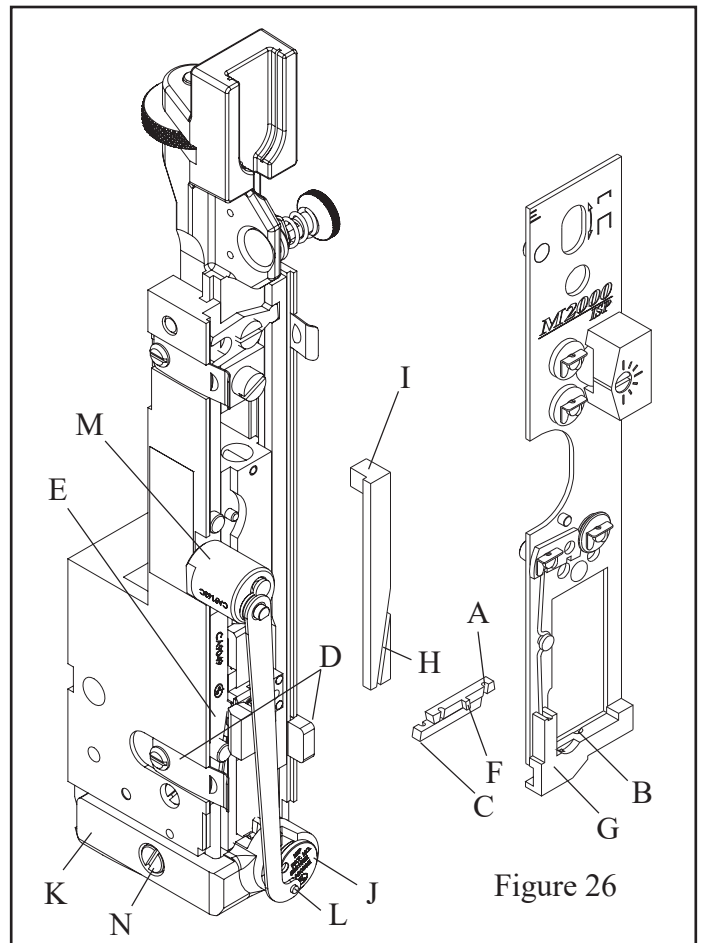

Figure 26
## **I. Wire Cutters: (Figure 26)**
3. Lift end of spring (Index L, Figure 26) out of rotator.
5. Slip the rotator operating cam (Index M, Figure 26) forward and off the stud.
## L. Rotator (Figure 26)
The rotator holder and rotator operating spring are responsible for alignment of the wire beneath the bender bar grooves. The position of the rotator holder determines how far the rotator is pushed forward under the bender bar by the rotator operating spring (Index L, Figure 26). A weak spring will not push the rotator in far enough and with this improper alignment the bender bar will knock the wire from the rotator or will shear the wire into pieces. To secure proper alignment, check the position of the rotator holder and the tension applied by the rotator operating spring. Make any necessary adjustment of the rotator holder or replace the rotator operating spring if weak.
3. Loosen the rotator holder screw (Index N, Figure 26).
the wire points straight down as in figure 26. Improper straightening of the wire can also cause the stitch legs to buckle or turn out because they strike the clincher improperly. Excessive tension on the wire straightener prevents the grip (Index D) from feeding the wire smoothly. This causes variation in leg length.